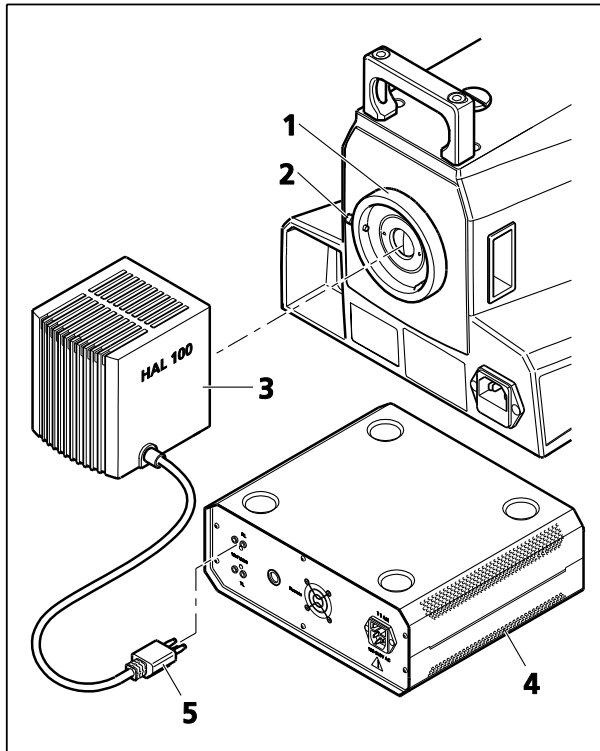
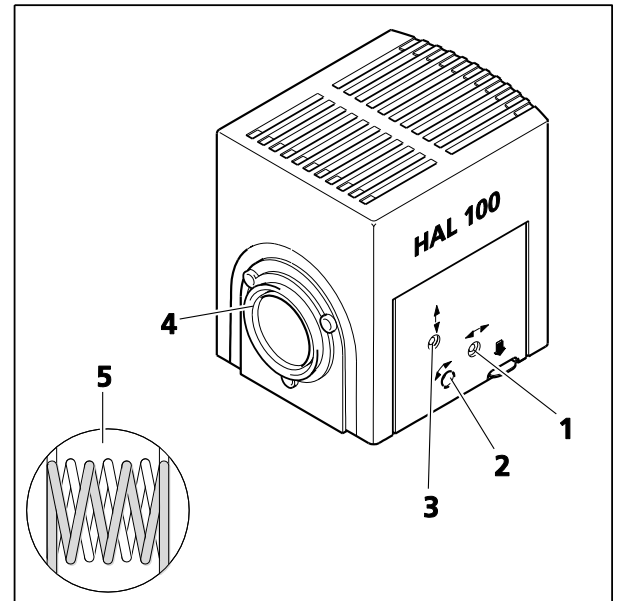

Fig. 3-21 Attaching the HAL 100 Illuminator
Fig. 3-22 Adjusting the HAL 100 Illuminator
- Loosen the clamping screw (Fig. 3-21/2) on the reflected light port (Fig. 3-21/1) and remove the cap.
- Insert the illuminator housing (Fig. 3-21/3) with the dovetail ring into the port (Fig. 3-21/1). Use ball-headed screwdriver SW 3 and the locking screw (Fig. 3-21/2) to fix the illuminator firmly into position.
- Insert the plug of the HAL 100 (Fig. 3-21/5) into the **RL** socket at the back of the external power supply unit (Fig. 3-21/4).
- Loosen the clamping screw (Fig. 3-21/2) and then detach the operational halogen illuminator (Fig. 3-22/4) from the microscope stand.
- Use ball-headed screwdriver SW 3 to set the adjusting screw (Fig. 3-22/1) until both lamp filament images are shown on the projection surface as sharply defined as possible.
- Use the adjusting screws (Fig. 3-22/2 and 3) to align the lamp filaments and their mirror image in such a way to each other that the mirror image fills up the spaces of the lamp filaments (Fig. 3-22/5).
- Remove the eyepiece. Use the adjusting screws (Fig. 3-22/2 and 3) to center the lamp filaments and their mirror image in the pupil image.
- Optimize the overlapping, using the adjusting screw (Fig. 3-22/1).
- Switch off the microscope, remove the plug (Fig. 3-21/5) from the socket (reflected light), and allow the lamp to cool off for approximately 15 minutes.